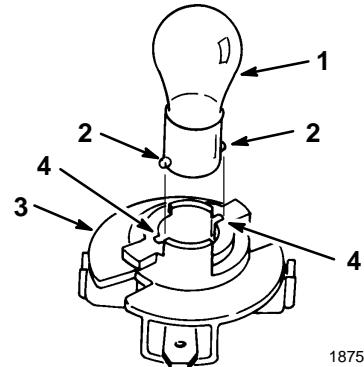

Figure 20
4. Push and rotate the bulb counterclockwise until it stops (approx. 1/4 turn) and remove bulb from the bulb holder (Fig. 20).
1. The bulb has metal pins on the side of its base. Align the pins with the slots in the bulb holder and insert the base into the holder (Fig. 20). Push and rotate the bulb clockwise until it stops.